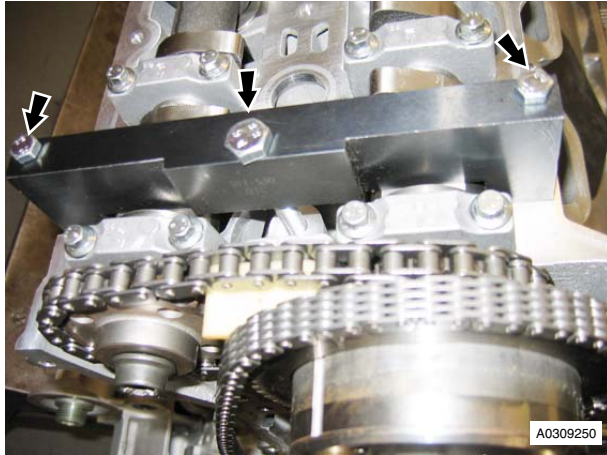

Figure 1
- Remove the special tool (refer to Figure 1 - Right side shown).